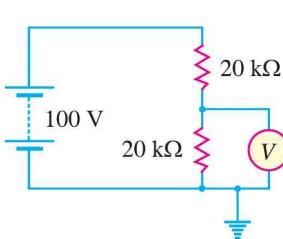

Fig. 22.28
1. A voltmeter is used to measure voltage across $20 \text{ k}\Omega$ resistor as shown in Fig. 22.28. What will be the voltage value if (i) voltmeter has infinite resistance (ii) voltmeter has a sensitivity of $1000 \text{ }\Omega$ per volt and reads 100 V full scale ? [(i) 50 V (ii) 45 V]
3. If the sensitivity of voltmeter in Fig. 22.28 is $500 \text{ }\Omega/\text{volt}$ (Full-scale reading being 100 V), what will be the reading of the voltmeter ? [41.7 V]